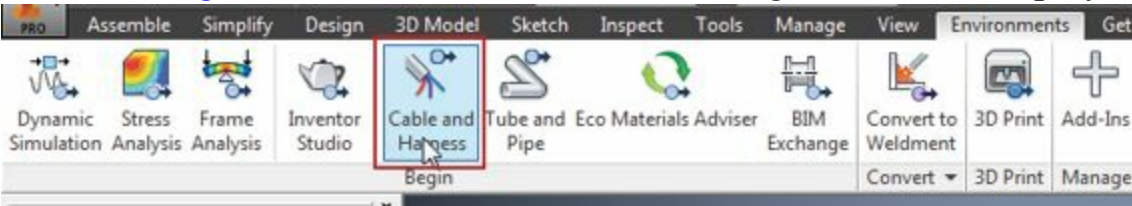
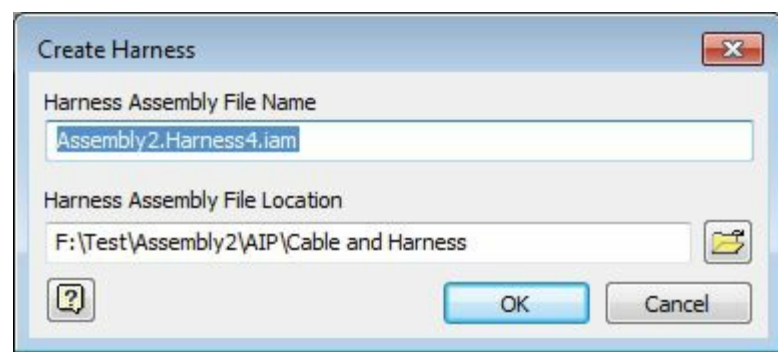

Figure-36. Cable and Harness button
Figure-37. Create Harness dialog box
- Click on the **Cable and Harness** tool from the **Begin** panel in the **Environments** tab of the **Ribbon**; refer to Figure-36. The **Create Harness** dialog box will be displayed; refer to Figure-37.